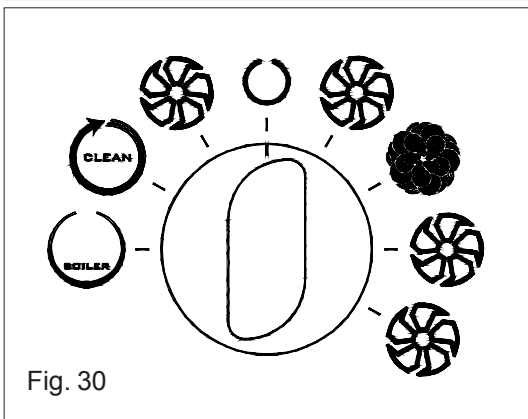

Fig. 30
- At this point, the oven cleaning procedure is completed. Open the oven door and rinse the cavity using the water spray nozzle. If the cleaning cycle is interrupted by the user, the buzzer will sound for 20 seconds, during which the cycle can be resumed by turning the knob back to "CLEAN". Otherwise, after the twenty-second warning, the cycle will be terminated. To drain the water from the boiler, turn the knob to "OFF" (fig. 30). After a few minutes, the steam generator will be drained automatically.